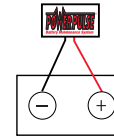

Fig. 1
- 3 Screw a hex nut* onto the bolt and tighten it until it secures the lug and washer between it and the clamp nut. This will allow PowerPulse to send a pulsating dc current through the terminal and into the battery which will eliminate the buildup of sulfates on the lead plates. (see Fig. 1.)